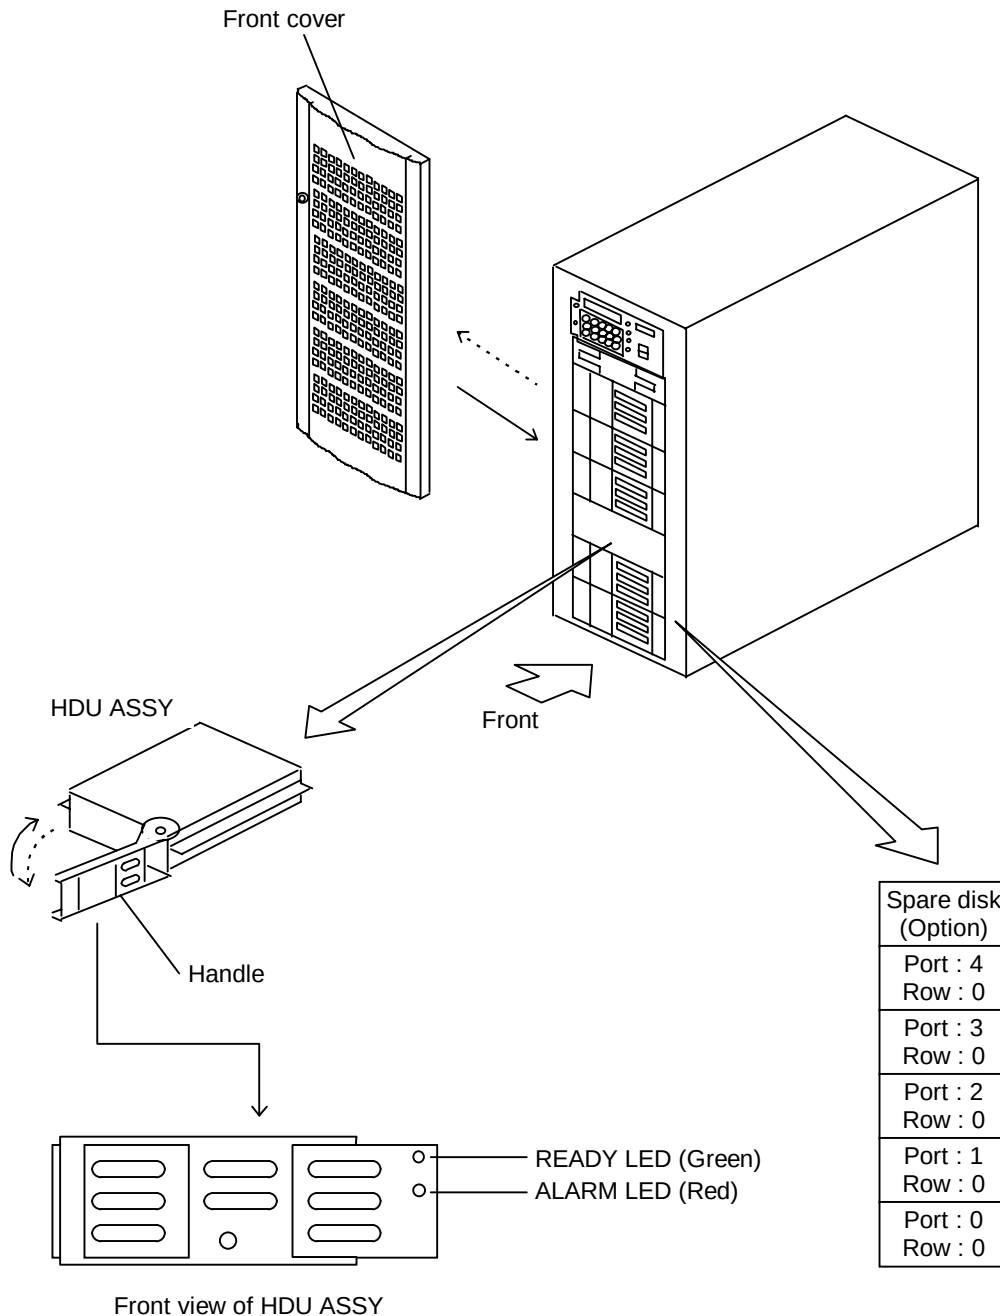

Figure 3.2.5 Installing HDU ASSY
3.2.5 Installing HDU ASSY (See Figure 3.2.5.)